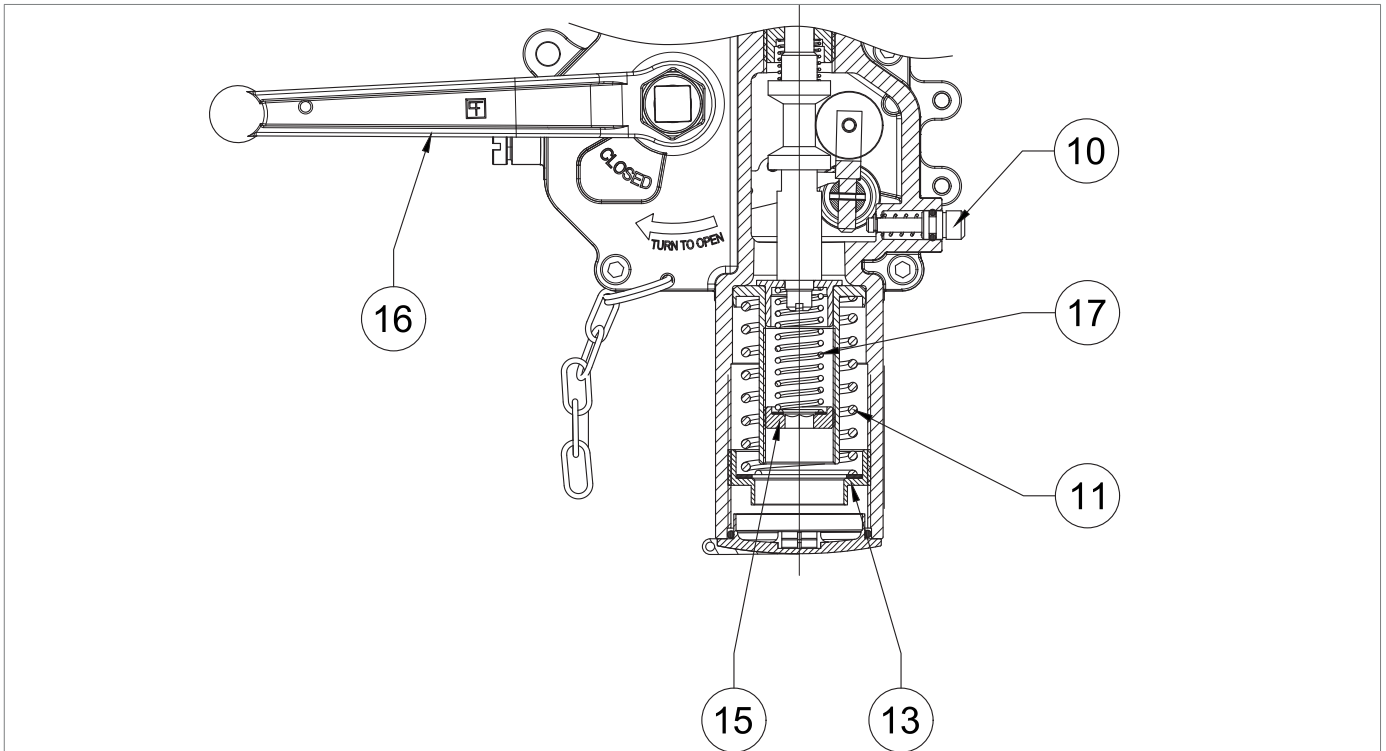

Fig. 8.29. Calibration of pressure switches models SA-91, SA-92, SA-93
2	<p>If the slam-shut valve:</p> <ul style="list-style-type: none"> trips before the expected pressure value: screw in (clockwise) the adjustment ring nut (Fig. 8.29, ref. 13) so as to further compress the spring (Fig. 8.29, ref. 11); does not trip at the expected pressure value: unscrew (anti-clockwise) the adjustment ring nut (Fig. 8.29, ref. 13) so as to relieve the spring (Fig. 8.29, ref. 11).